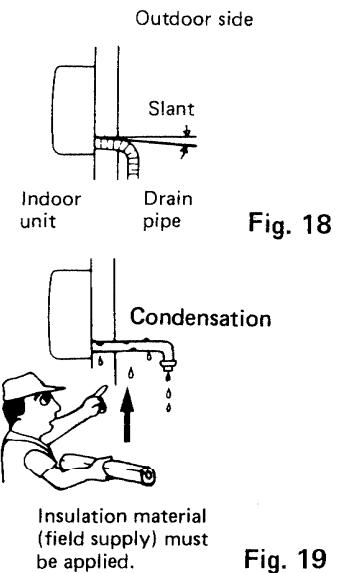

Fig. 18
- a) Drain piping should be slanted downward to outdoor. Fig. 18